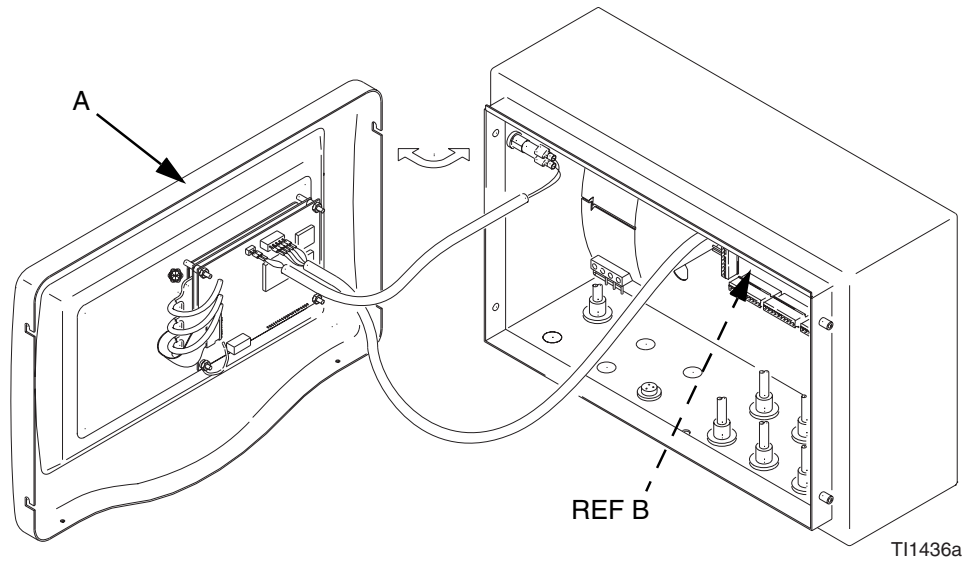

FIG. 2
2. Remove control box cover (A). See Manual 309301 and refer to **FIG. 2**.